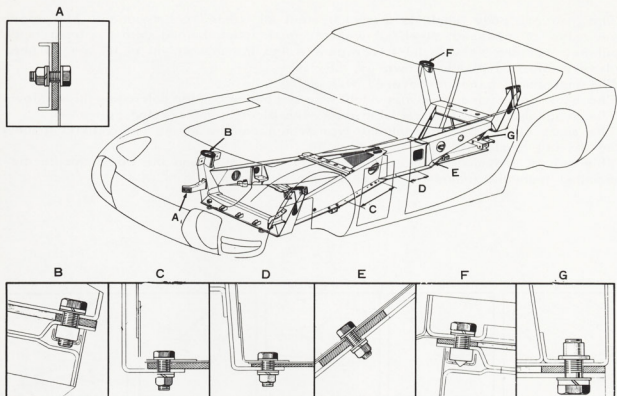

Fig.14-2 Body Mounting
5. Remove the body mounting bolts from the mounting locations as shown in fig. 14-2.